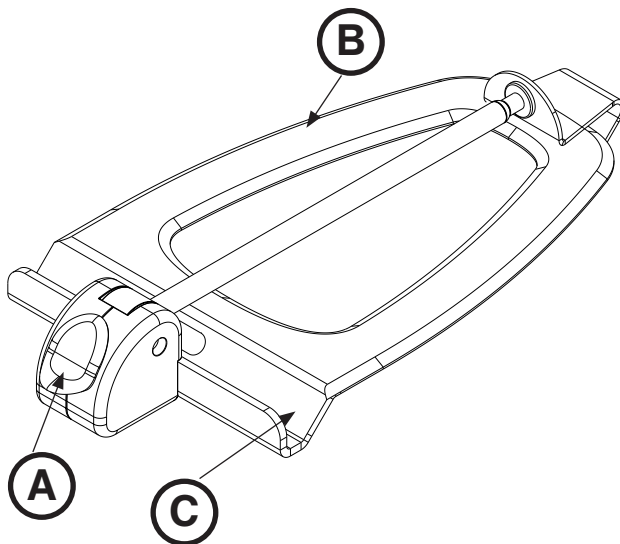

Figure 58: Lateral Cassette Holder
1. Press down on the yellow release button (A) to open the lateral cassette holder (Figure 58).
2. Slide the flat base (B) between the mattress and the patient platform (Figures 58 and 59).